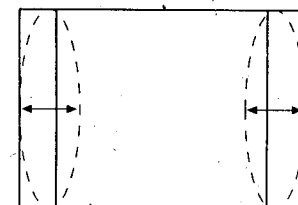

Fig. 7
- Adjust the E-W PARABOLA to obtain condition as (fig. 7).